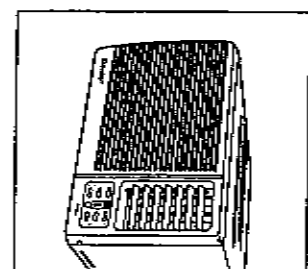

Fig. 1
- Position the air conditioner on it's back. Fig. 1